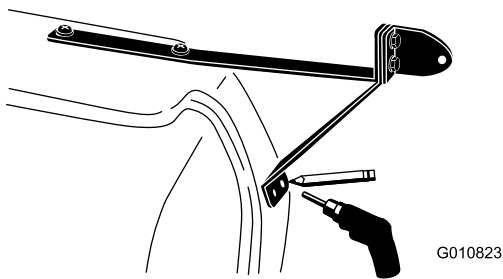

Figure 7
7. Using the lower mirror bracket as a template, locate, mark, and drill 2 holes (12.7 mm or 1/2-inch) diameter into the side of the machine (Figure 7).